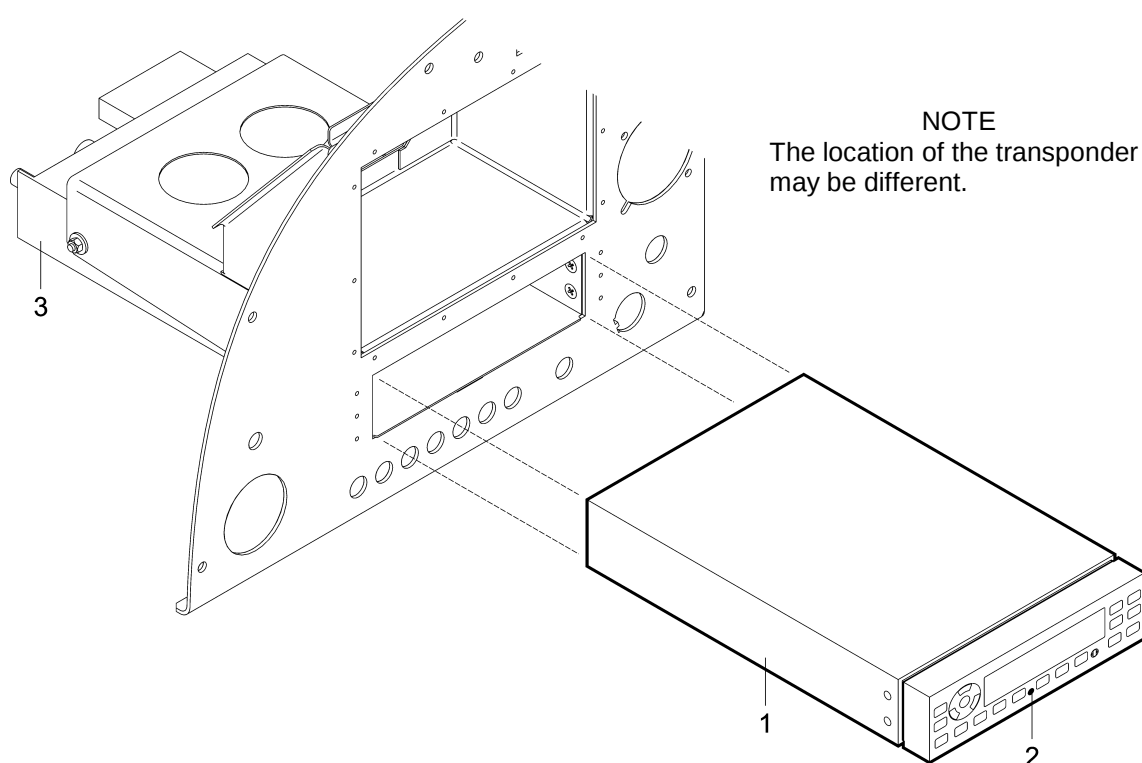

Fig. 12-31: Transponder removal / installation
- (b) Put a 3/32 Allen wrench into the access hole (2, Fig. 12-31) for the locking screw; engage the screw.
- (c) Turn the screw counter-clockwise until the transponder (1) disengages from the mounting rack.
- (c) Slide the transponder (1, Fig. 12-31) into the rack (3). Engage the locking screw so that the latch front lobe touches the rack.